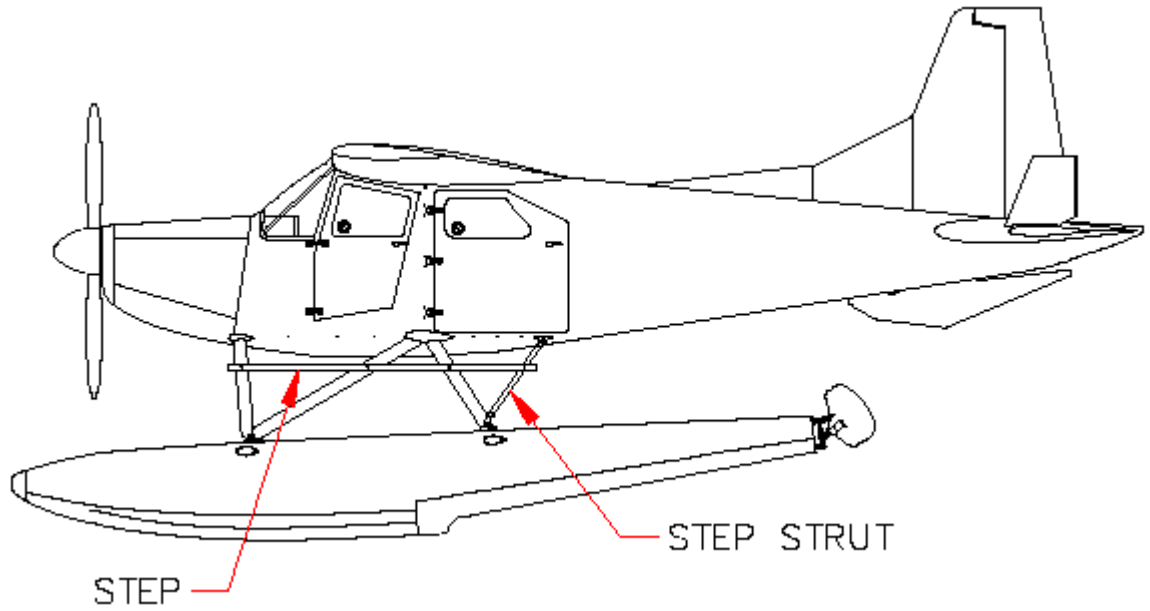

Figure 1
1. Remove port and starboard steps – see Figure 1. Retain spacers installed at forward struts. The steps will not be used again. Retain hardware.
2. Remove Step Strut, port and starboard – see Figure 1 & 2. Retain hardware. Struts will not be used.
1. Remove port and starboard steps – see Figure 1. The steps will not be used again. Retain hardware.
2. Remove Step Strut, port and starboard – see Figure 1 & 2. Struts and hardware will not be used.